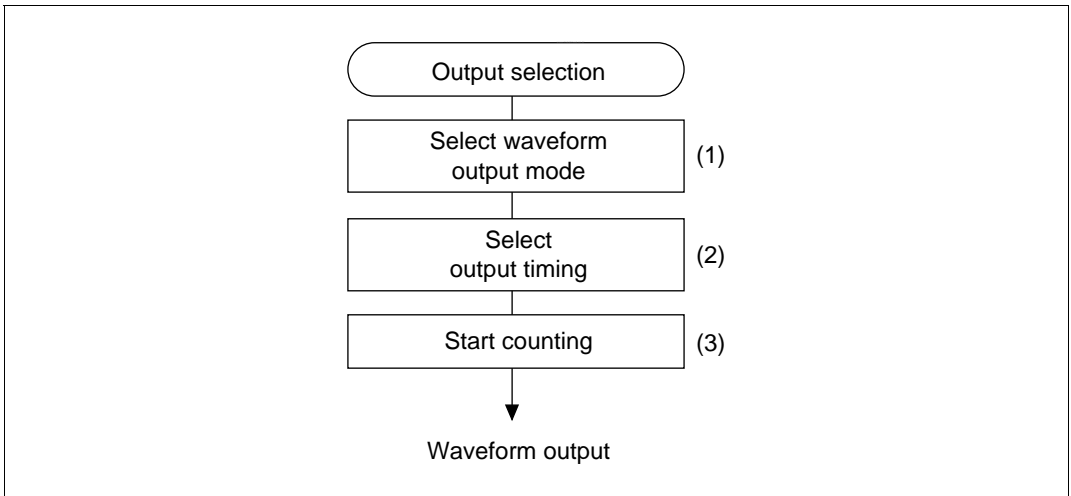

Figure 10.19 Procedure for Selecting the Compare Match Waveform Output Mode
- Procedure for selecting the waveform output mode (figure 10.19):